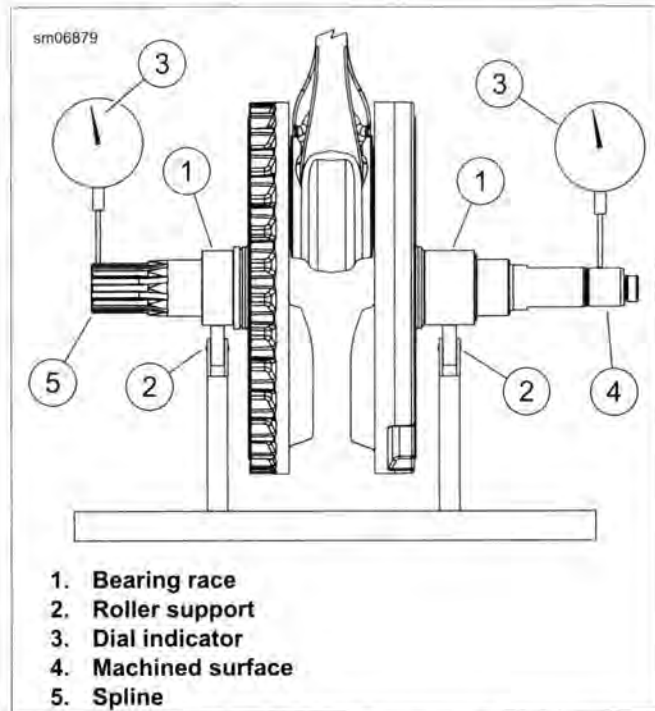

Figure 3-129. Checking Crankshaft Runout
1. See Figure 3-129. Mount crankshaft in truing stand so it is supported on the bearing races (1) by the roller supports (2).